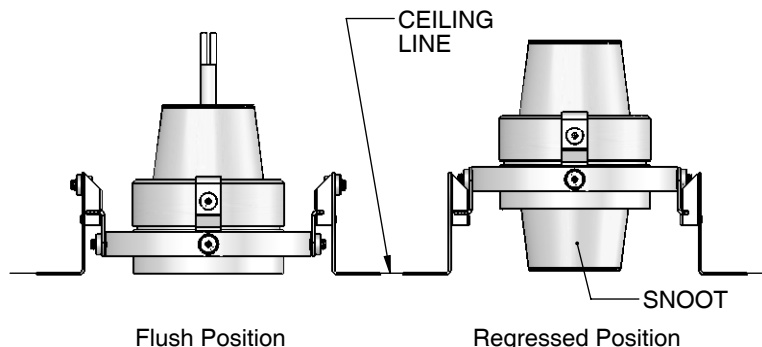

Figure 8
The lamp ring may be installed in a regressed position only if a SNOOT accessory is being used. See Fig. 8. If necessary, please see step 13 for instructions on SNOOT installation. To accomplish the regressed lamp ring position set the COVER RING aside. Remove the lamp ring assy by loosening the two (2) SET SCREWS in the GIMBAL BLOCKS.